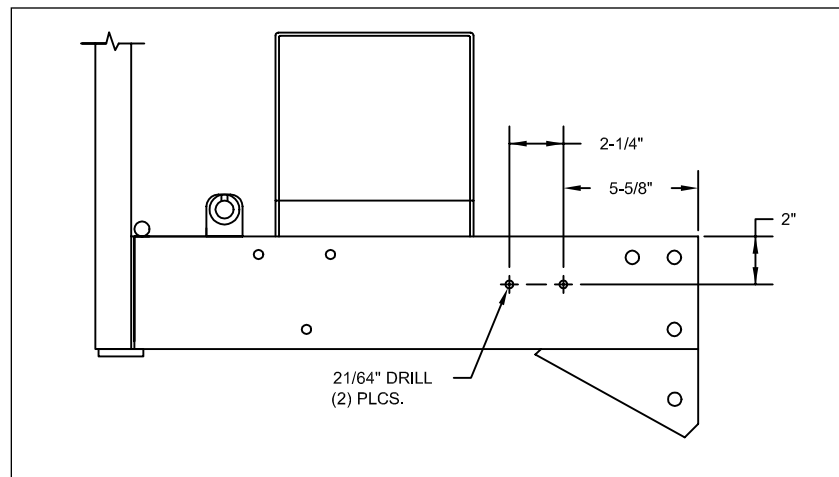

Figure 1. Drill Locations
6. Drill two holes per Figure 1, page 2 to mount the new style parking brake jack shaft.